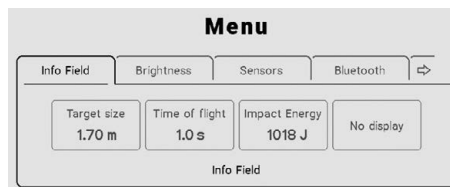

Fig. 6
- To go to the menu for the basic settings for the IFS (Fig. 6): press the On/Off button (3/1) again briefly.